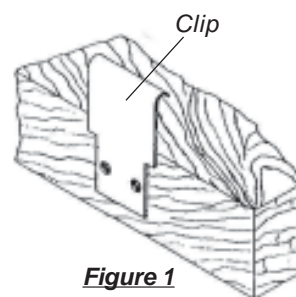

Figure 1
1. Screw or bolt the two clips to one side of the work surface on 13" centers (see Figure 1).